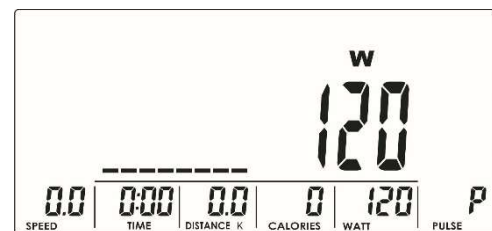

Fig. 015
2. Use buttons UP or DOWN to set the target WATT value (default: 120) (Fig. 015).